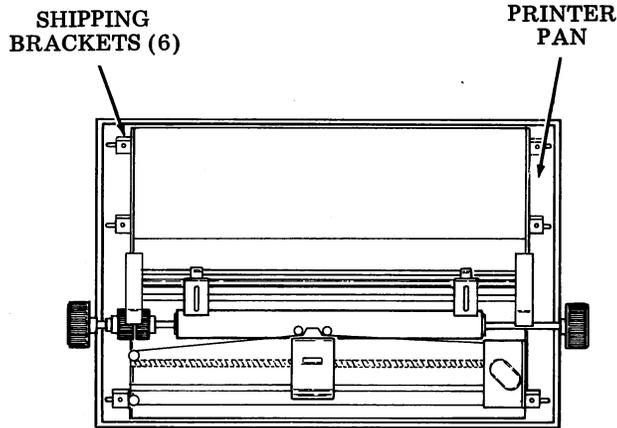

Fig. 10
5.01 Loosen six printer shipping bracket screws from underneath the printer pan. Open the cover and slide the shipping brackets fully inward into the openings on the printer side frames. Tighten the shipping bracket screws. See Fig. 10.